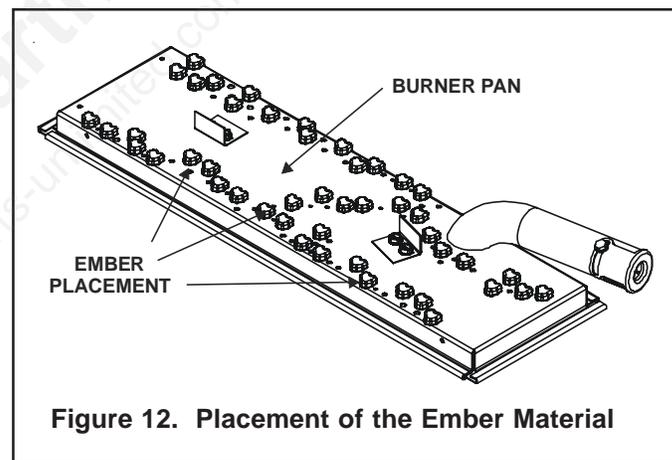

Figure 12. Placement of the Ember Material
- Place a dime size piece of **GLOWING EMBER** material near port holes in burner top (see Figure 12).